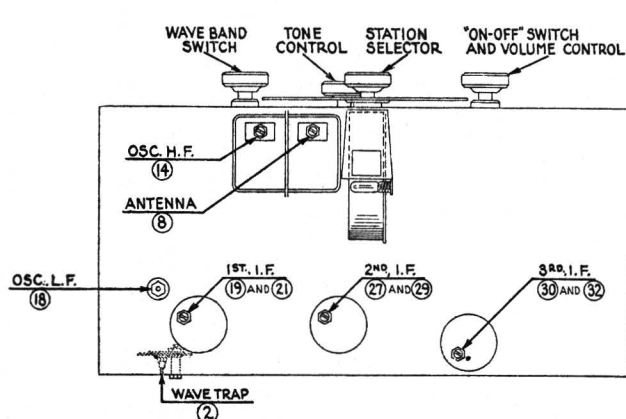

Fig. 1—Top View Showing Location of Compensating Condensers.
ADJUSTMENT OF THE WAVE TRAP—Replace the grid clip upon the Detector-Oscillator tube (Type 6-A-7). Connect the output leads from the signal generator directly to the antenna and ground terminals of the receiver. Set the Wave-Band Switch of the receiver to the standard broadcast band (left-hand position) and the Station Selector at the low frequency (540 K.C.) end. Adjust the Wave Trap condenser to give MINIMUM response to a 460 K.C. signal from the signal generator. The Wave Trap (2) is located at rear and underneath the chassis, and is shown in Figure 1. It is reached from the rear of the chassis by inserting the fibre wrench through the hole near left-hand rear corner of chassis.
Finally, set the signal generator at 600, tune in this signal and adjust the "oscillator L. F." condenser, located underneath chassis (18) in Fig. 1) to maximum reading. This adjustment is reached through the hole in top of chassis, between the two electrolytic condensers (left-hand end of chassis when facing rear).